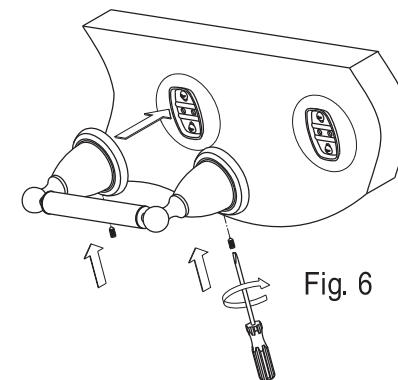

Fig. 6
- Step 7. Place the unit, with the small hole in the base underneath, over the mounting plate by tightening the slotted set screws with a flat head screwdriver until the base is tightly fixed (fig 6).